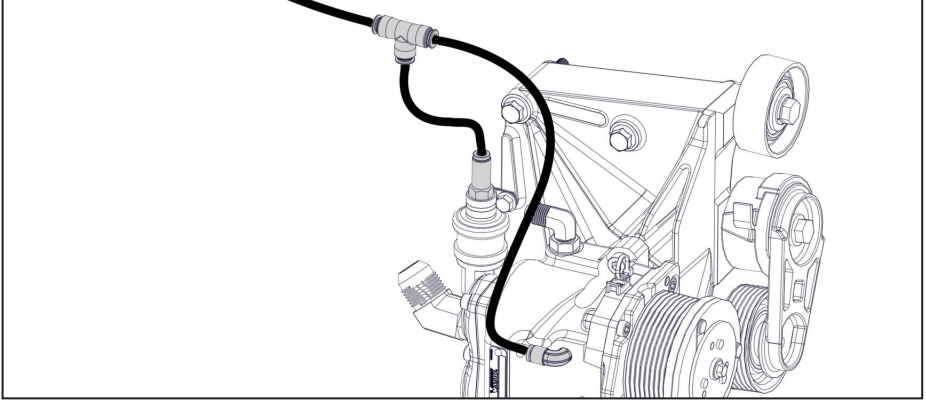

Figure 28 — Install pressure switch
- From the 24 in spool of 1/4 in PTFE tubing, connect the scavenge tube to the compressor, pressure switch assembly, and Union Tee (Figure 28).